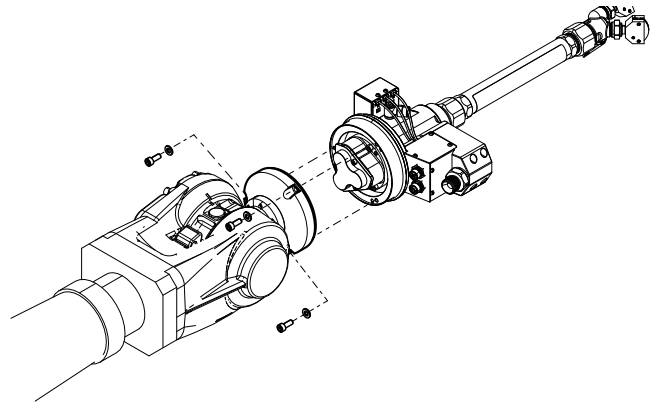

FIG. 11
5. Remove the screws that attach the swivel housing (511) to the anti-rotation bracket.
6. Unscrew the three screws that mount the SST Switch 3D Gun to the robot mounting flange. See FIG. 11.